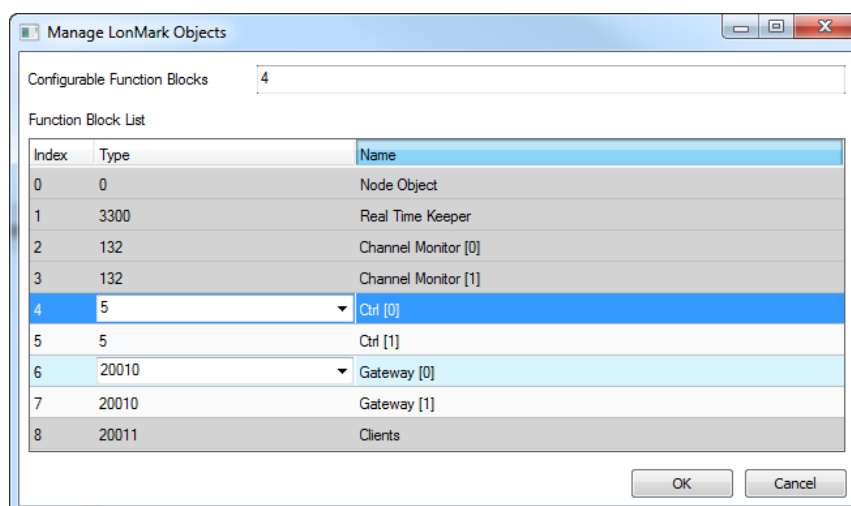

Figure 101: Manage LONMARK Objects.
1. Select the menu **Tools → Manage LonMark Objects ...**. The dialog **Manage LonMark Objects** as shown in Figure 101 appears.